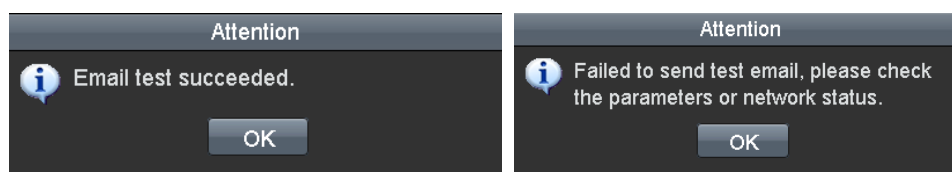

Figure 9. 24 Email Testing Attention
7. You can click  to test whether your Email settings work. The corresponding Attention message box will pop up. Refer to Figure 9. 24.